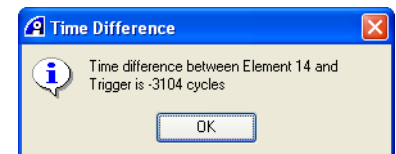

Figure 9-5 Time measurement from trigger dialog box
3. Select **Time Measure from Trigger** from the context menu to display the Prompt dialog box. Figure 9-5 shows an example: